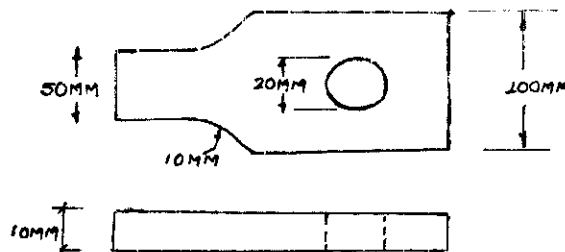

Fig.Q3(b)
- b. A plate shown in Fig.Q3(b) is subjected to a fluctuating load which varies from 19600 N to 9800 N. Determine whether it is safe to operate the plate continuously. Given that $\sigma_s = 274$ MPa, $\sigma_{end} = 235$ MPa. Load, size and surface correction factors are 0.7, 0.5 and 0.8 respectively.